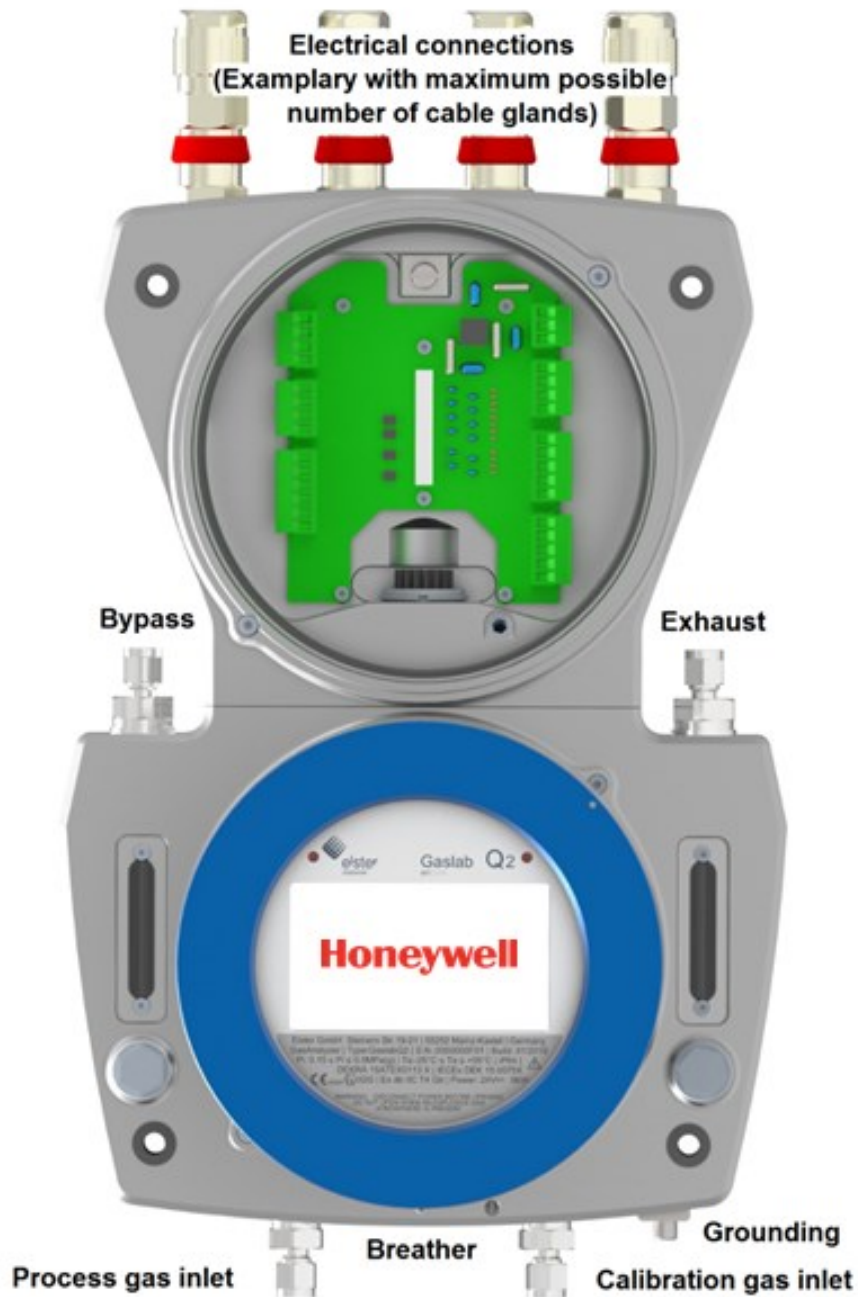

Figure 3.2: Overview of connection section/connection points
Figure 3.2 shows an example of four cable glands for electrical inputs and outputs on the top of the instrument. If required, the threaded holes of the housing can also be equipped with dummy plugs or adapters.
The housing must be grounded or connected to the local potential equalization. For this purpose, there is an earthing and equipotential bonding screw (GROUND) on the bottom next to the calibration gas inlet. A further functional grounding point (FE) is in the connection box in the upper recess of the board. See Figure 3.2.